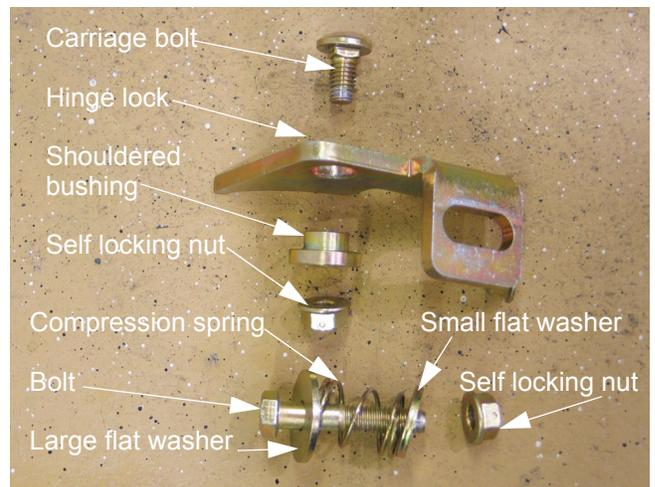

Figure 10.11
10.11. The hinge lock assembly can then be removed from the deck, except for the carriage bolt. The cable bracket must be removed to release the carriage bolt. See Figure 10.11.